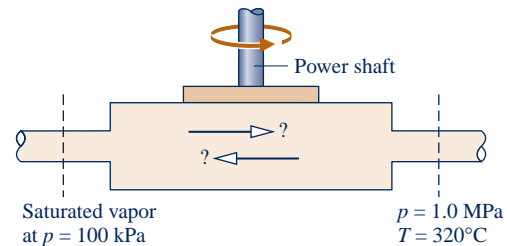

Fig. P6.88
6.88 Figure P6.88 provides steady-state operating data for a well-insulated device having steam entering at one location and exiting at another. Neglecting kinetic and potential energy effects, determine (a) the direction of flow and (b) the power output or input, as appropriate, in kJ per kg of steam flowing.